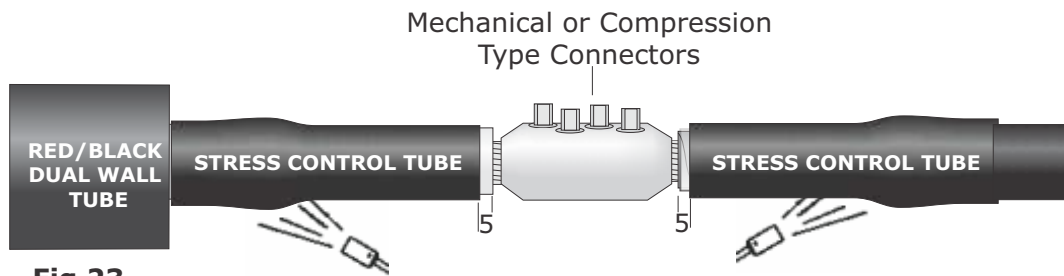

Fig 23
29. Position the stress control tubes 5mm back from the end of the insulation as shown in Fig 23. Starting from the insulation end and using a soft flame torch, apply heat all around the tubes until fully recovered.
30. Before proceeding, position the outer shrink tube/s over the cable end/s and red/black dual wall tubes over each core as shown in Fig 23.